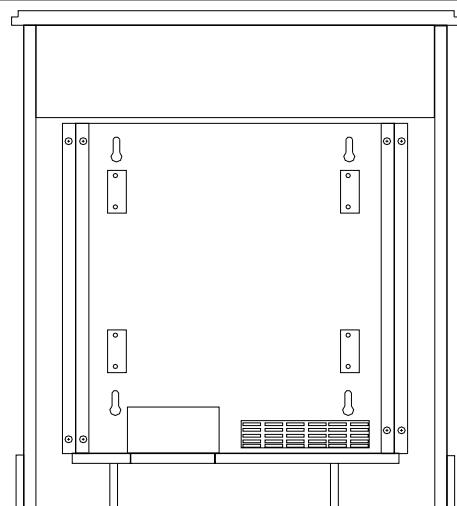

Figure 7
With the four (4) wood screws provided secure the brackets to the rear of the mantel. See Figure 7, page 12.